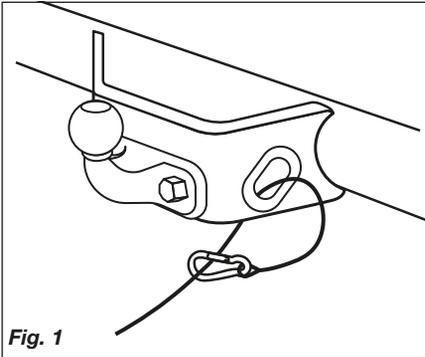
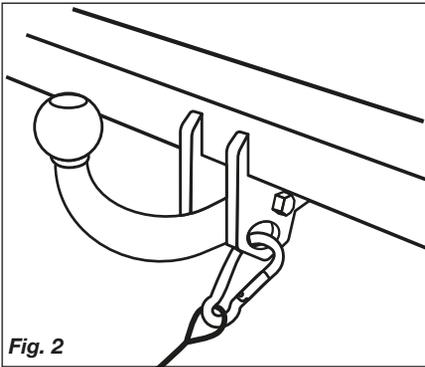

Fig. 1
Fig. 2
- Either pass the cable through the attachment point and clip it back on itself (Fig 1) or attach it directly to the designated point (Fig 2).